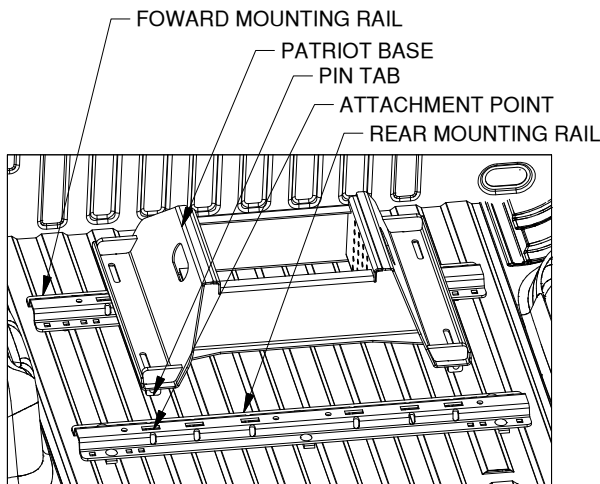

Figure E1: View into truck bed from tailgate.
1. **Position the forward mounting rail.** For this step the base which will be used in the mounting rails is required. Place a mounting rail into the truck bed in front of the rear mounting rail. Place the base over the rail attachment points and carefully lower it until the pin tabs pass through the attachment points on the rear mounting rail. See Figure E1. Attach the forward mounting rail to the forward mounting points on the base. The base should rest flat against the top of the rails. With the base still attached ensure that the forward rail is centered in the truck bed.